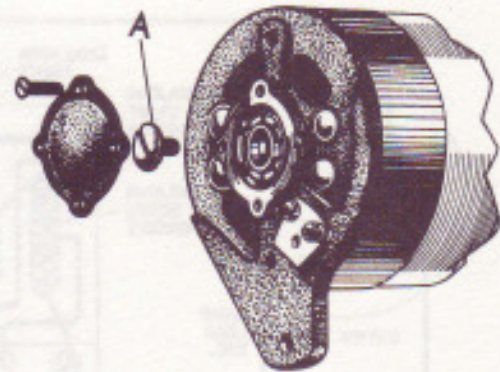

FIG. 8. COMMUTATOR END BRACKET SHOWING COVER AND THRUST SCREW "A" REMOVED.
On dynamos having roller bearings in the commutator end bracket, it will, in the event of an armature replacement, be necessary to remove the bearing sleeve and collar at the commutator end of the old armature shaft, and fit them to the replacement armature. The bearing sleeve and collar can be removed when the dome-headed thrust screw in the end of the shaft is taken out. It is important that the bearing sleeve is only used with its original bearing, and that great care is taken not to damage the sleeve face during armature replacement. When fitting make certain that the thrust screw "A" (Fig. 8) is screwed fully on its seating.
- (ii) The bearing can now be removed. It will be found to be a push fit in the housing. In the case of a roller bearing the screw "A" (Fig.8) will have to be removed before the inner race can be removed.